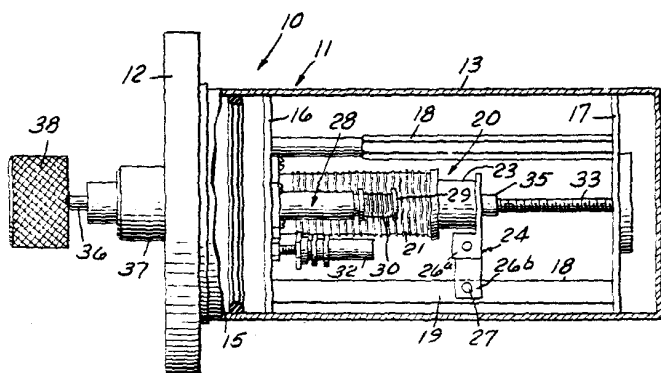
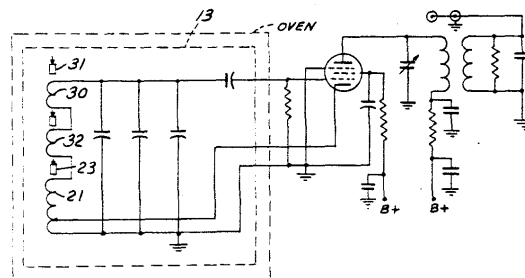

FIG 1 COSMOS PTO
FIG 2 SCHEMATIC DIAGRAM
The Cosmos PTO has three inductor coils instead of two employed by Collins (refer to drawing in Fig. 1 and schematic in Fig. 2). There is the familiar main tuning coil (item 21), an endpoint